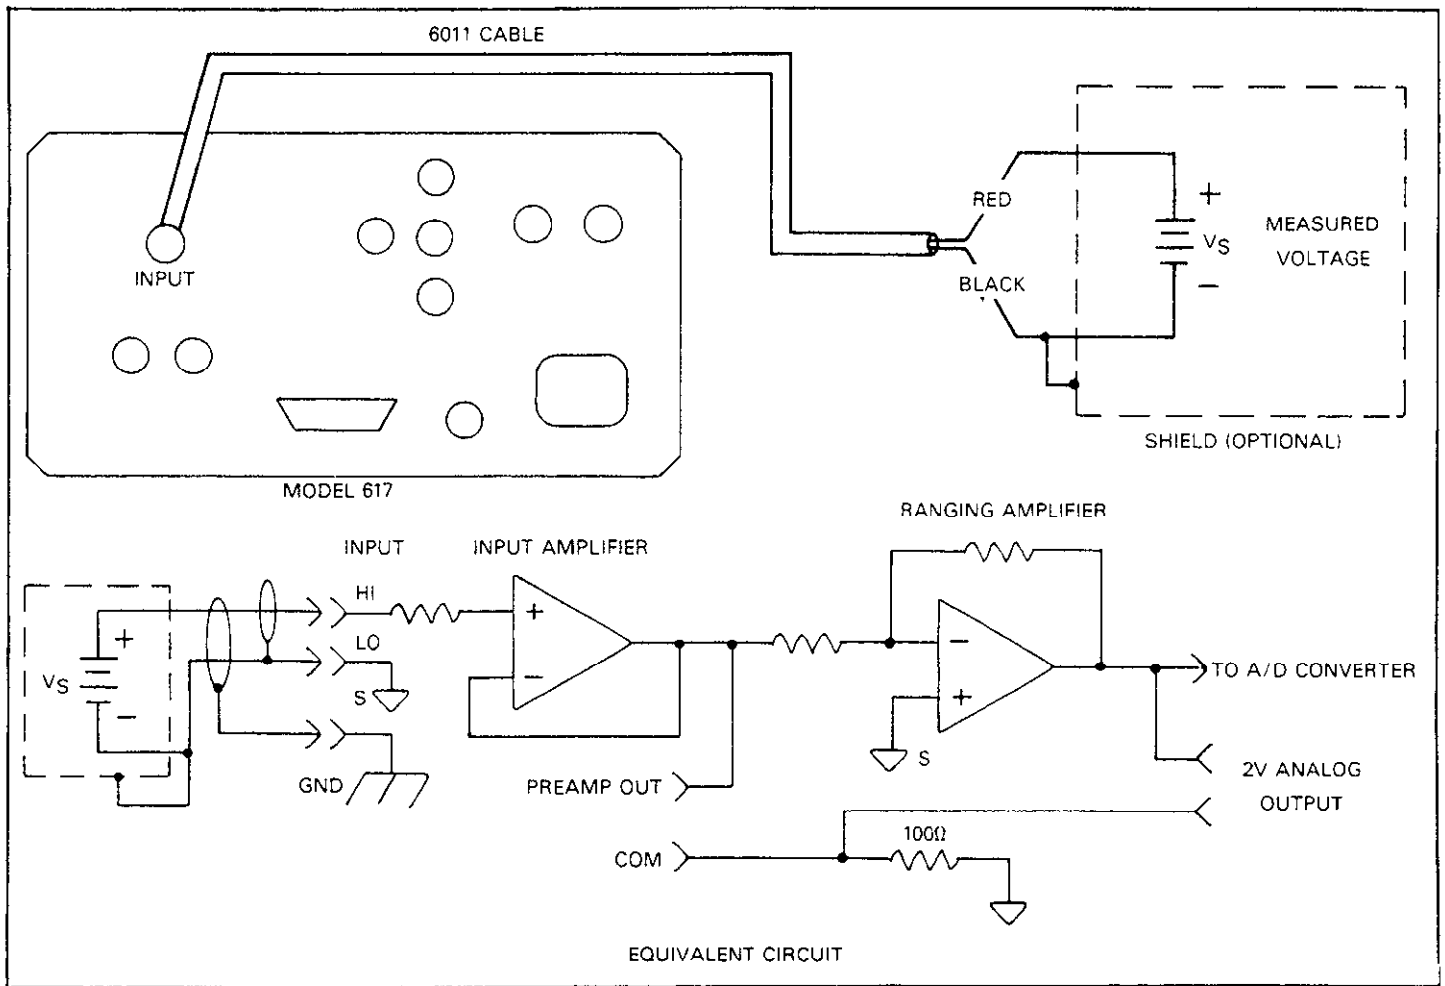

Figure 2-4. Connections for Voltage Measurements
6. Connect the other end of the cable to the voltage to be measured, as shown in Figure 2-4. Disable zero check.